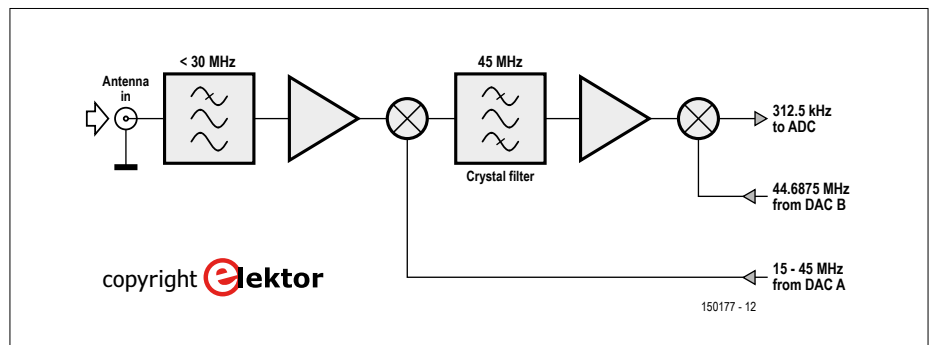

Figure 3. Block diagram of a radio add-on board.
For shortwave reception, a simple radio board could be constructed as shown in **Figure 3**. The antenna signal is lowpass filtered and amplified. By mixing it with a local oscillator (LO) signal from DAC A, the frequency of interest is converted to 45 MHz before it is passed through a crystal filter. This intermediate frequency (IF) signal is amplified before entering a second mixer where it is converted down to a second IF signal centered at